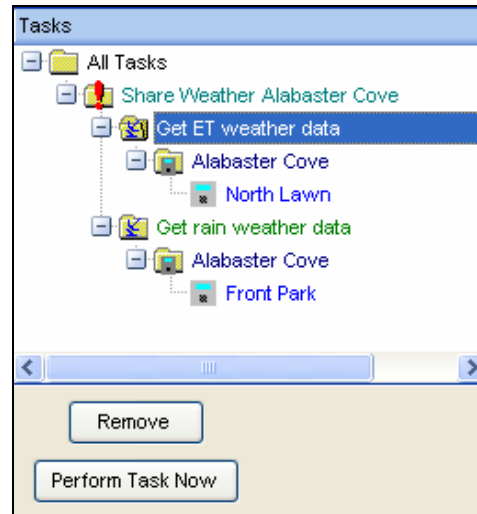

Figure 12.1.16
- Now this controller should appear directly under the **Get ET weather data** folder in the **Tasks** window (Figure 12.1.16).